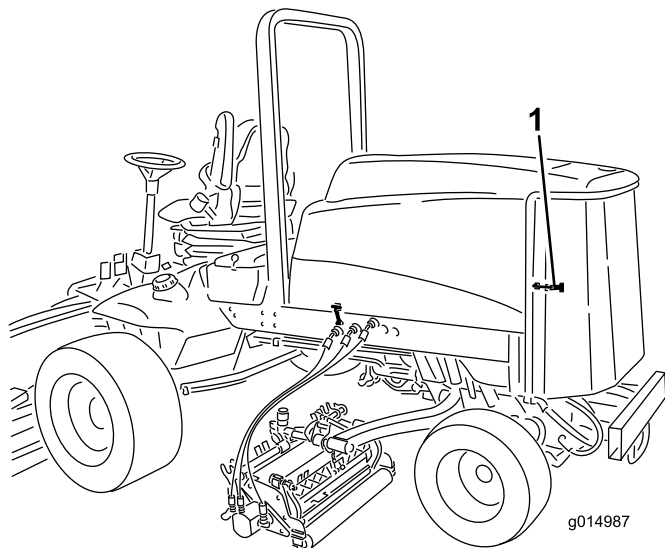

Figure 74
1. Unlatch and swing open rear screen (Figure 74). Clean the screen thoroughly of all debris.